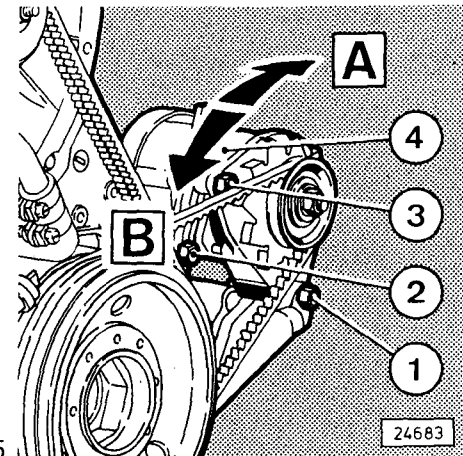

Fig. 45
- Slacken hex. bolts 1, 2 and 3 (Fig. 45).